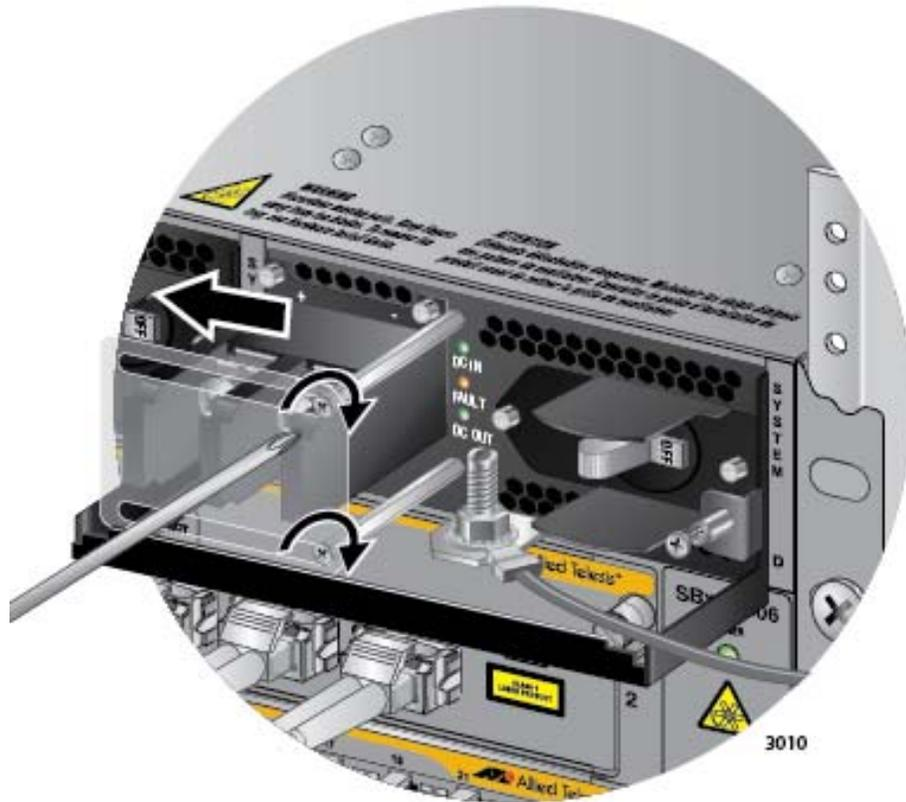

Figure 147. Closing the Plastic Cover
8. Slide the plastic cover to the left and lightly tighten the two screws to secure it in place. Refer to Figure 147 on page 216.